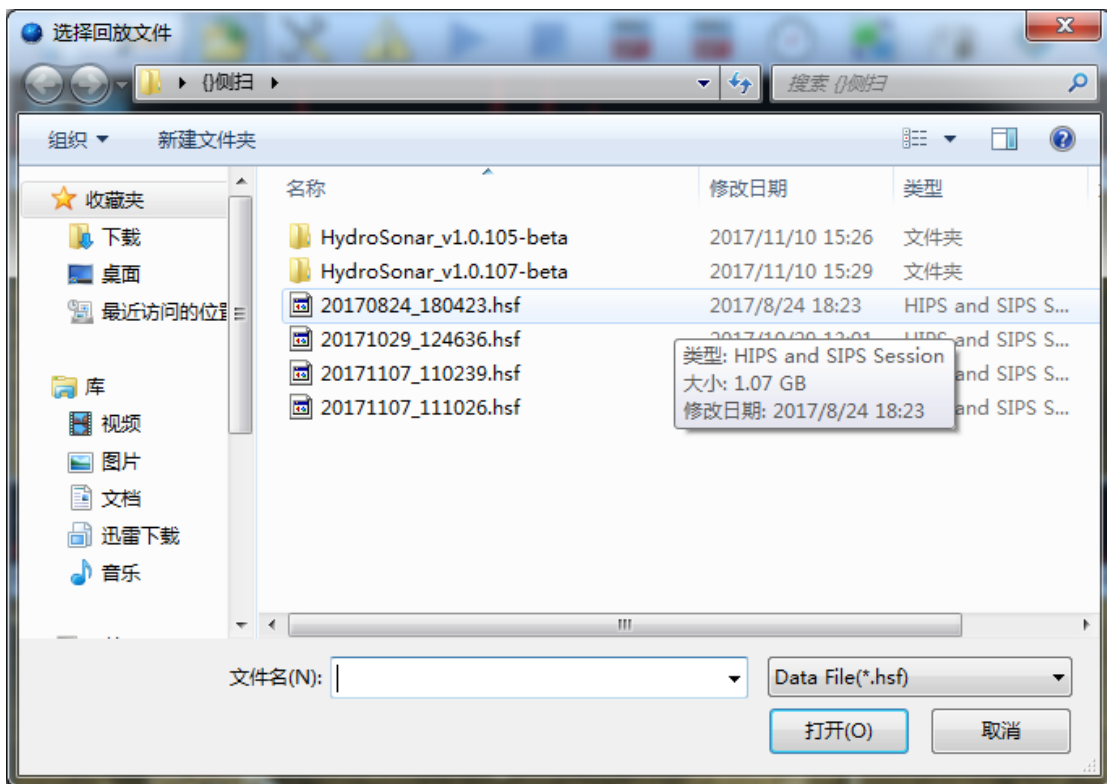

Figure 6.7 "Open File" Dialog
- (1) The "Project" button is to select a project or create a new project;
- (2) The button of "Connect Device" is to connect the side scan sonar;
- (3) The "Open File" button is used to select the playback file. After clicking, the software automatically pops up the "Select Playback File" dialog box as shown in Figure 6.7. Just select the file want to playback.